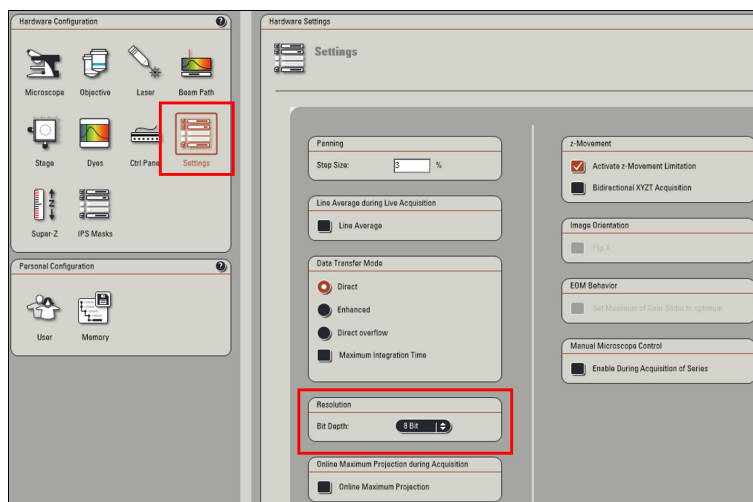

Figure 5: Bit depth settings.
- Click **Settings** icon, and adjust bit depth resolution if necessary (default is 8 bit, other options are 12 and 16 bit) If you are quantifying your image intensities, it is recommended to use 16 bit. See Figure: 5